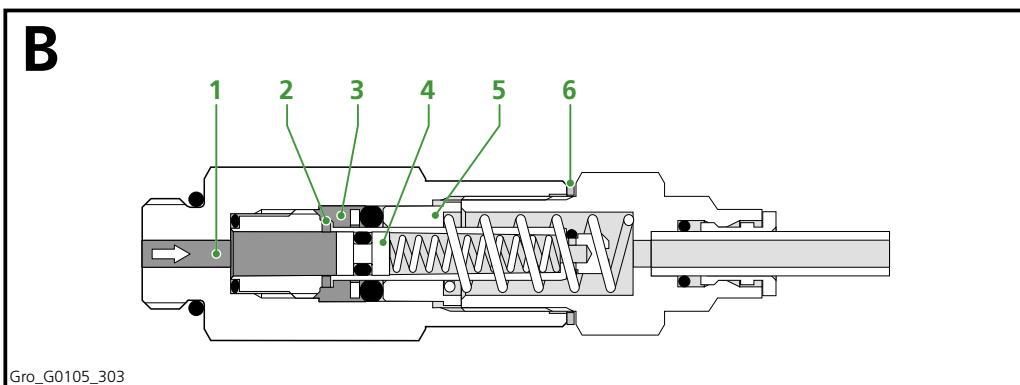

Figure 3.4 Phase B, metering unit during phase B
The pump presses the grease into channel (1) of the metering unit (Figure 3.4). The pressure pushes plunger (4) past channel (2). The grease now fills chamber (3) and pushes plunger (5) to the right. The stroke length of plunger (5) determines the amount of grease that is pushed through the grease line to the grease point. This stroke length - and thus the contents of chamber (3) - is determined by the total thickness of the spacer(s) (6).